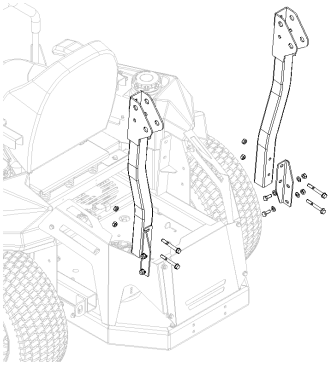

Fig. 3
- Locate and align the left and right lower roll bar tubes with the machine frame(Refer to Fig. 3), torque all the nuts to $50\pm 5\text{N.m}$.